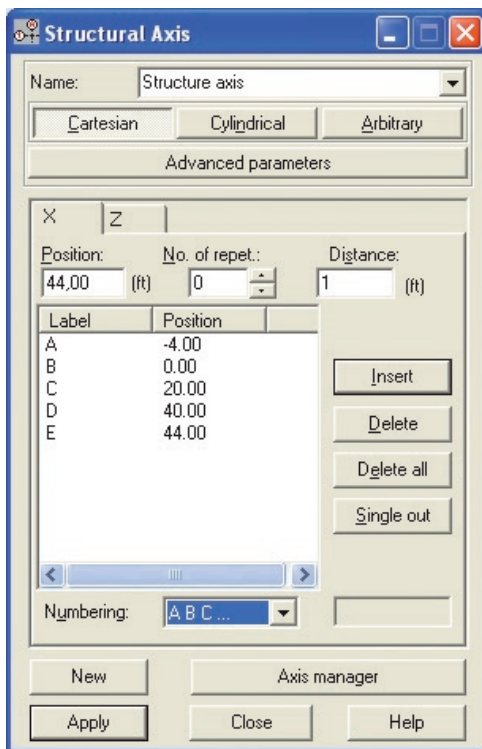

Figure 2 - Definition of structural axis in X direction.
2. On the **X** tab in the **Position** field type **-4** and press **Insert** button, in the same way enter following axis coordinates as shown below (Figure 2):